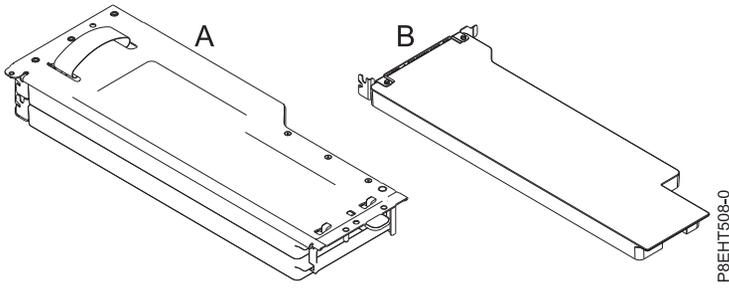

Figure 40. PCIe riser with fillers installed
- Depending on the size of the PCIe adapter, remove one or both fillers from the carrier. See Figure 40 on page 34.